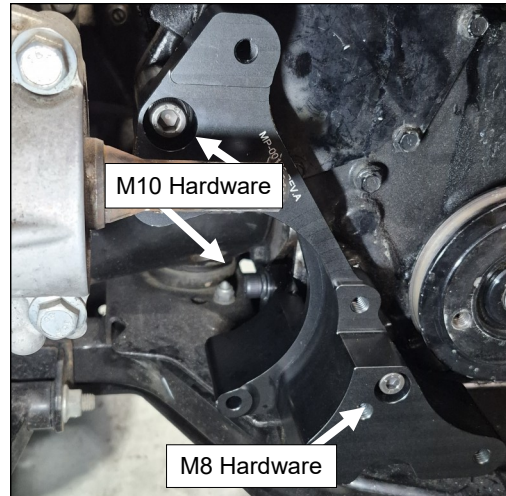

Fig. 3.1 Compressor Bracket Orientation
- 3.1 Install compressor bracket from below, rotating top forward of differential unit until it is in place. See figure 3.1.